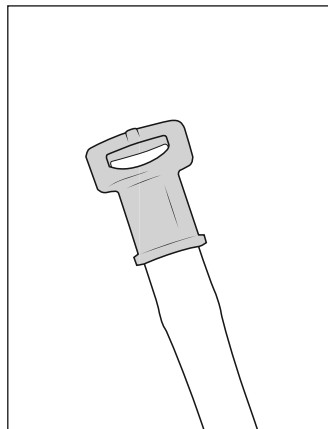
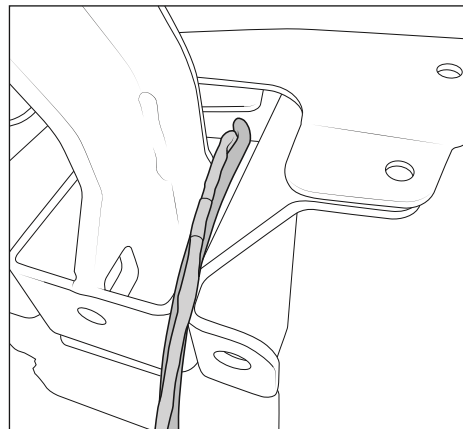
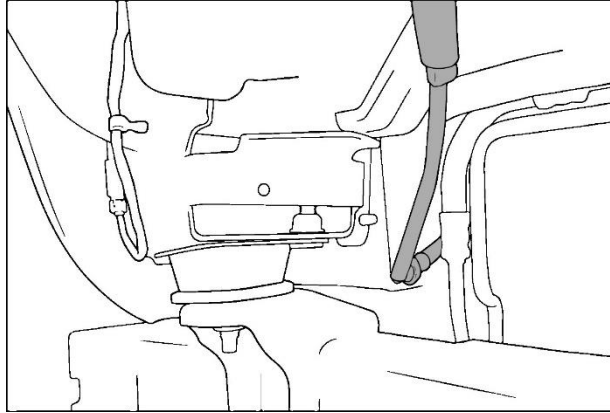

Figure 12
Figure 13
Figure 14
3. Install the chassis-side quick connect fitting saved from earlier to the end of the long supplied hose (fig. 12). Feed the fitting through the bumper brackets as shown below (fig. 13). Route it safely through the radiator support and along the frame, to the other end of quick connector behind the wheel liner (fig.14). Be sure to avoid sharp edges and snag points. Connect the fitting but do not remove the clamp on the line yet.
4. Route the camera wiring harness alongside the washer hose (see fig. 13). (Note: MY24+ Be sure the wire extension plugs into the vehicle first, then the original OEM harness connects onto the extension ultimately completing the circuit to the camera.) Also, be sure the straight connector on the washer hose goes on the chassis side and the 90° connector goes toward the camera.